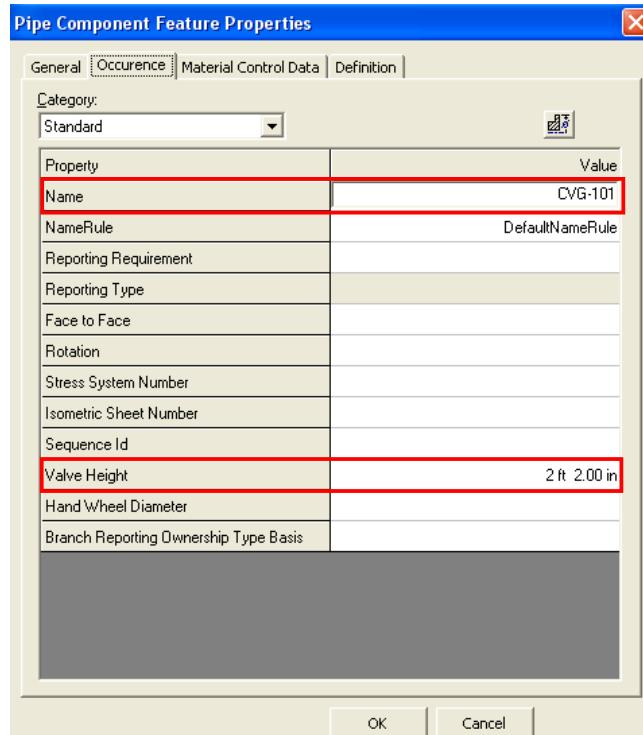

Figure 15: Standard Properties in the Pipe Component Feature Properties Dialog Box
- Key in **2 ft 2 in** in the **Valve Height** field to define the height of the instrument valve and **CVG-101** as the tag number in the **Name** field for this instrument, as shown in Figure 15.